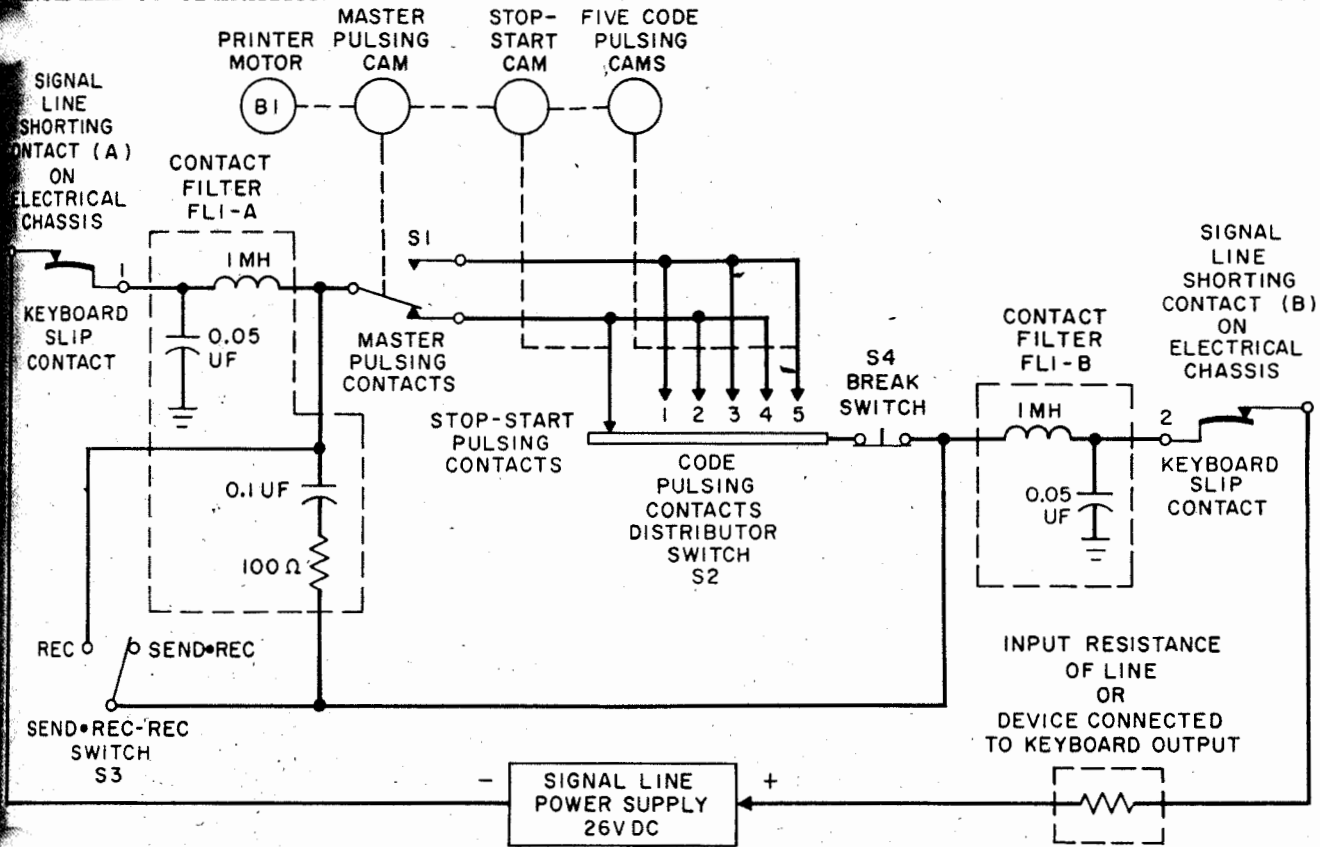

Figure 4-8. Keyboard TT-318/UG(1A9), Simplified Schematic Diagram
(2) ELECTRICAL FUNCTIONS. (See figure 4-8.) — The keyboard circuit is shown with contacts